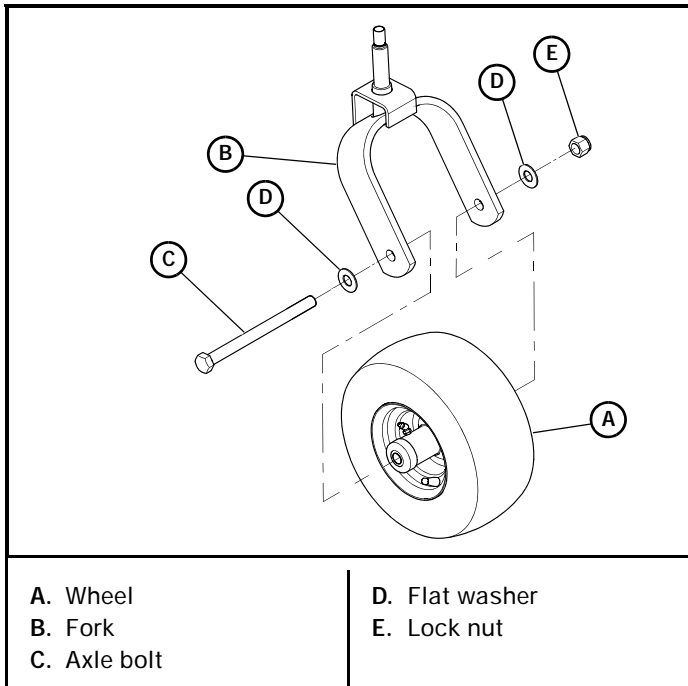

Figure 4-25
3. Remove the wheel from the fork by removing the axle bolt, flat washers, and lock nut. Figure 4-25